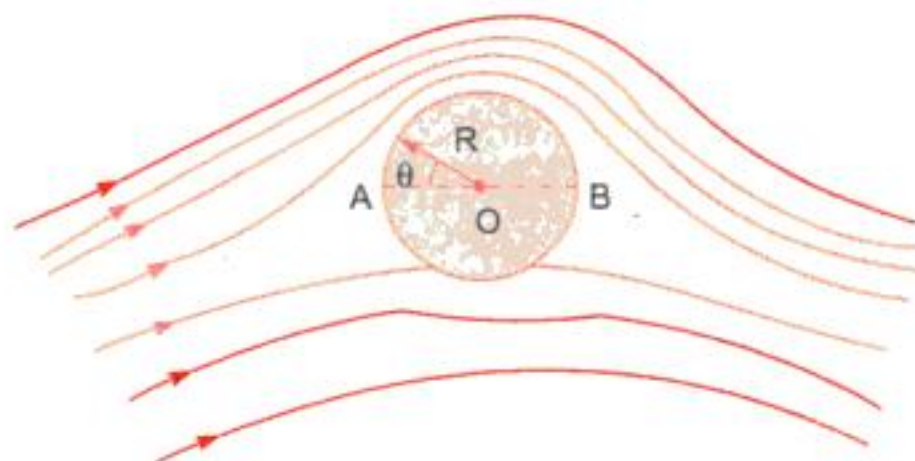

Fig. 14.12 Flow pattern over a rotating cylinder.
**Flow over Cylinder due to Constant Circulation.** The flow pattern over a cylinder to which a constant circulation ( $\Gamma$ ) is imparted is obtained by combining the flow patterns shown in Fig. 14.9 and Fig. 14.11 (a). The resultant flow pattern is shown in Fig. 14.12. The velocity at any point on the surface of the cylinder is obtained by adding equations (14.12) and (14.14) as
**14.7.3 Expression for Lift Force Acting on Rotating Cylinder.** Let a cylinder is rotating in a uniform flow field. The resultant flow pattern will be as shown in Fig. 14.12. Consider a small length of the element of the surface of the cylinder.